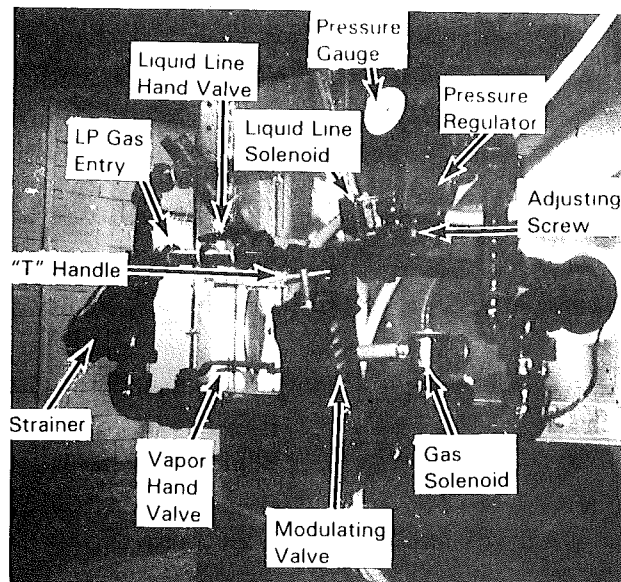

Figure 20
1. Start fans by pressing the FAN START BUTTON. There is a (6) second delay between Fan No. 1 starting and Fan No. 2 starting. Check to make sure that both Air Switch Indicator Lights are ON.
2. Open the gas vapor hand valve (Figure 20) half way.
3. Flip the BURNER SWITCH up to the ON position. After a (10) second purge delay, the Ignition Indicator Lights will be on and the burners will ignite.
**NOTE:** The (10) second purge is a safety feature that allows the fans to purge the heat chamber of any unburned gases that may remain after burners have been shut down for any reason.
2. Turn the "T" handle on the modulating valve IN to increase temperature and OUT to decrease temperature (see Figure 20 ). There is a temperature gauge mounted on the control panel.
**NOTE:** After the dryer has been operating for about (1) hour, check the thermometer to make sure drying temperature is correct. If not, adjust Modulating Valve "T" handle. Turn handle clockwise to increase and counterclockwise to decrease temperature. It will not be necessary to adjust the modulating valve "T" for future start-ups unless the burner temperature is to be changed.